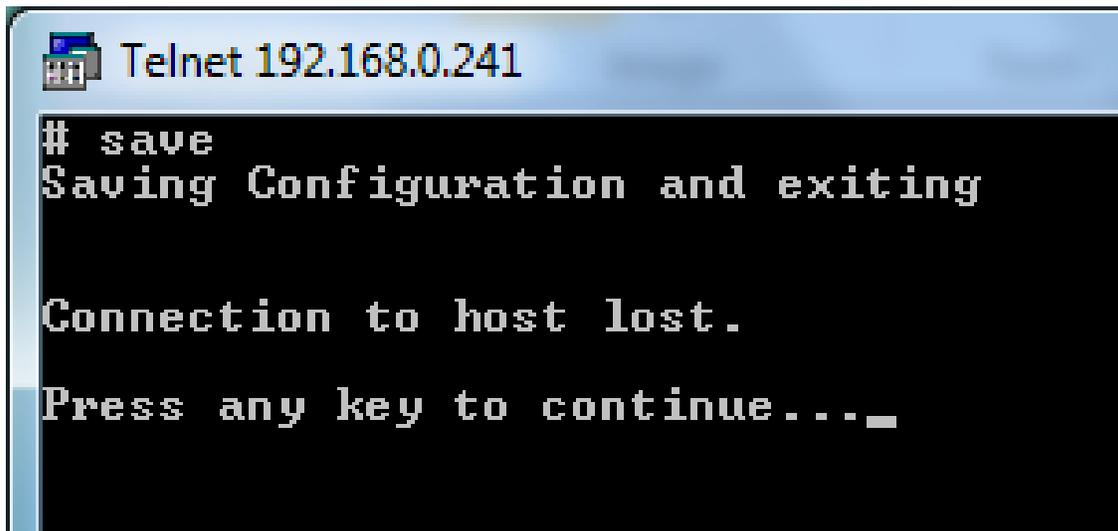

Figure C5. Windows 7 Telnet screen 5
8. Now you can reconnect to the RibEye with its new IP address using the “open [ip address]” command. When you get the command prompt, type “save” as in Figure C5 and press the “Enter” key. Now the new IP address is permanently saved in the RibEye flash memory.